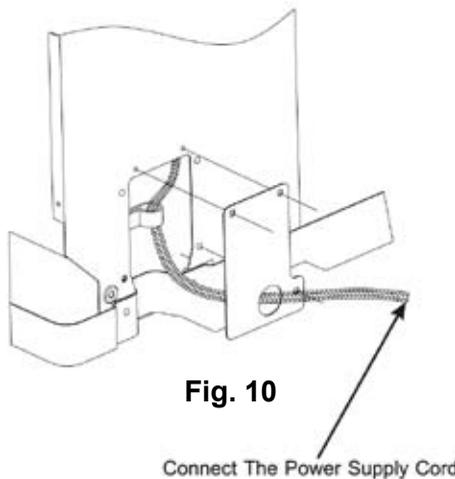

Fig. 10
4. Reinstall junction box cover. Secure with screws. See Fig. 10. Replace Junction box cover with screws removed from Step 2. Tighten securely. Unit must be installed using the appropriate power kit. See Chart 3 - POWER CONNECTION CHART. These connections must be followed.